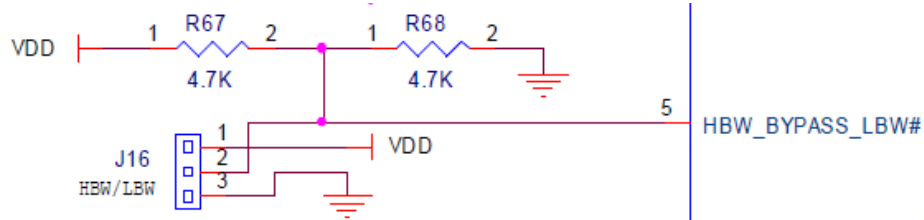

Figure 3. HBW_BYP_LBW# Schematic Configuration
5. The 100M_133M# and HBW_BYN_LBW pins need to be hardware selected with jumpers. See Figures 3 and 6.